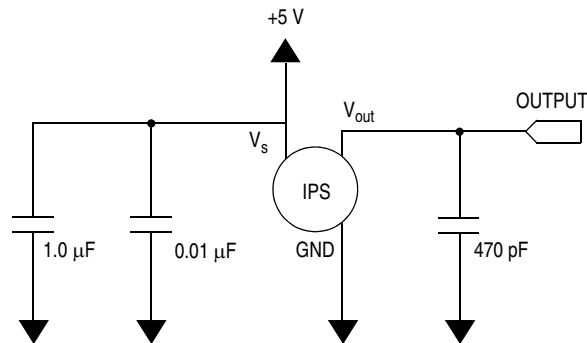

Figure 3. Recommended Power Supply Decoupling and Output Filtering (For additional output filtering, please refer to Application Note AN1646.)
**Table 2. Operating Characteristics** ( $V_S = 5.0$  Vdc,  $T_A = 25^\circ\text{C}$  unless otherwise noted. Decoupling circuit shown in Figure 3 required to meet specification.)
Figure 3 shows the recommended decoupling circuit for interfacing the integrated sensor to the A/D input of a microprocessor or microcontroller. Proper decoupling of the power supply is recommended.
Figure 4 shows the sensor output signal relative to pressure input. Typical, minimum, and maximum output curves are shown for operation over a temperature range of 0° to 85°C using the decoupling circuit shown in Figure 3. The output will saturate outside of the specified pressure range.